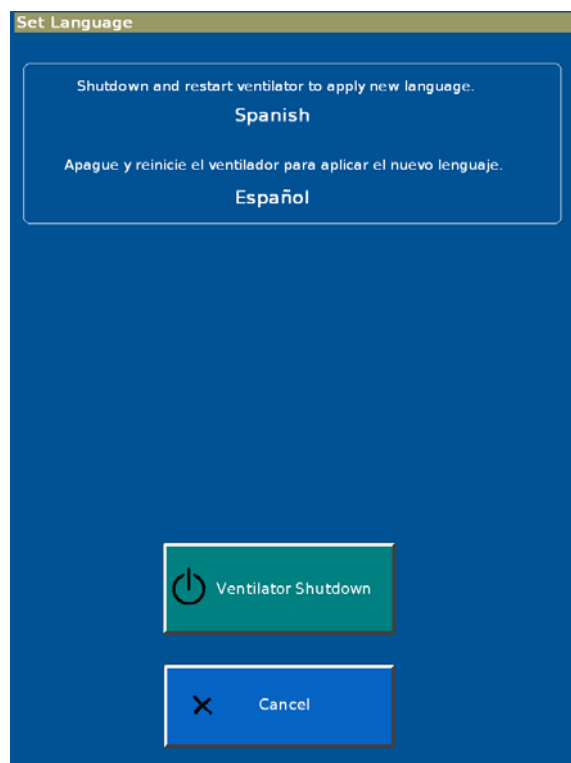

Figure 5-4: Set Language - Apply or Cancel
3. The screen shows the selected language (Figure 5-4).